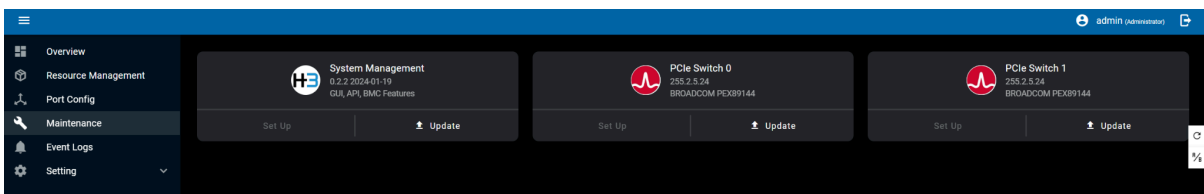

Figure 81. Firmware Update Tools on the Maintenance Page
B. From the left navigation menu, click Maintenance to access the firmware update tools (refer to Figure 81).